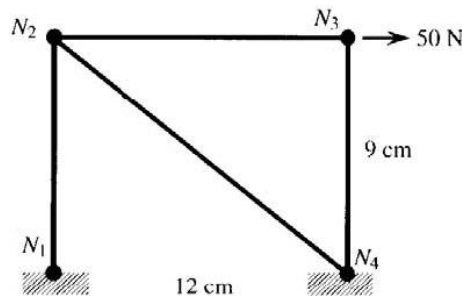

Figure 2
2. a) For a two-dimensional truss structure, as shown in the figure 2, determine displacements of the nodes and normal stresses developed in the members using FE. Use $E = 30 \times 10^6 \text{ N/cm}^2$ and a diameter of the circular cross-section of 0.25 cm. (15)